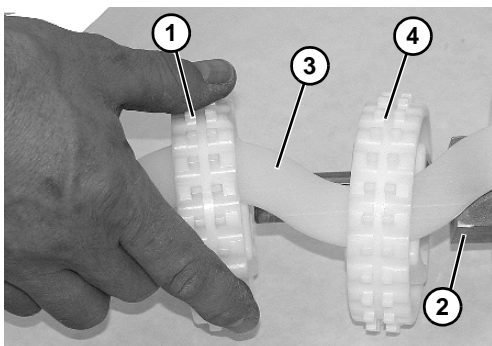
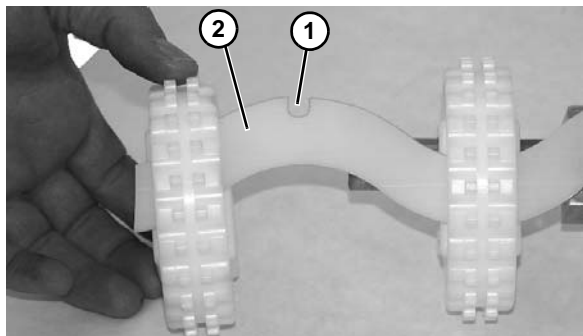

Figure 72
Figure 73
14. Slide entire sprocket assembly slightly outward, and remove the first sprocket (**Figure 72, item 1**) off the drive spindle (**Figure 72, item 2**) and alignment bar (**Figure 72, item 3**). Inspect and replace if worn.
15. Remove remaining sprockets (**Figure 72, item 4**) off the alignment bar as you slide entire assembly off the drive spindle.
17. Install second sprocket and subsequent sprockets (**Figure 72, item 4**) one by one, while sliding entire assembly onto alignment bar (**Figure 72, item 3**) and spindle (**Figure 72, item 2**), making certain each sprocket is locked into retaining tab cut out (**Figure 73, item 1**) on alignment bar (**Figure 73, item 2**).